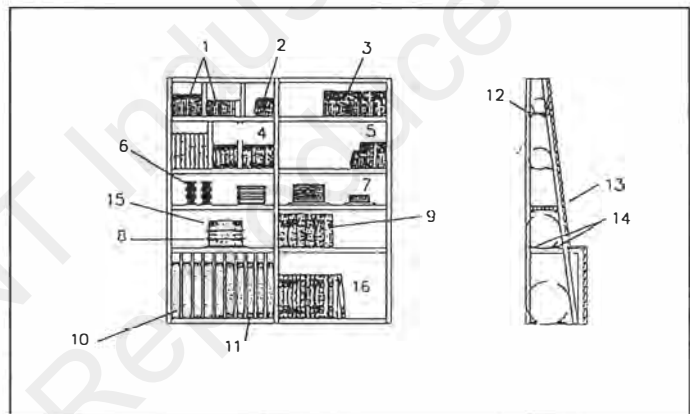

Fig. 6-17 Grinding wheel finishing shelf
6.4.6.1 Grinding wheels must be stored in a dry grinding wheel shelf (as shown in Fig. 6-17) that is protected from impacts and vibration. When moving the grinding wheel, take extra precautions.